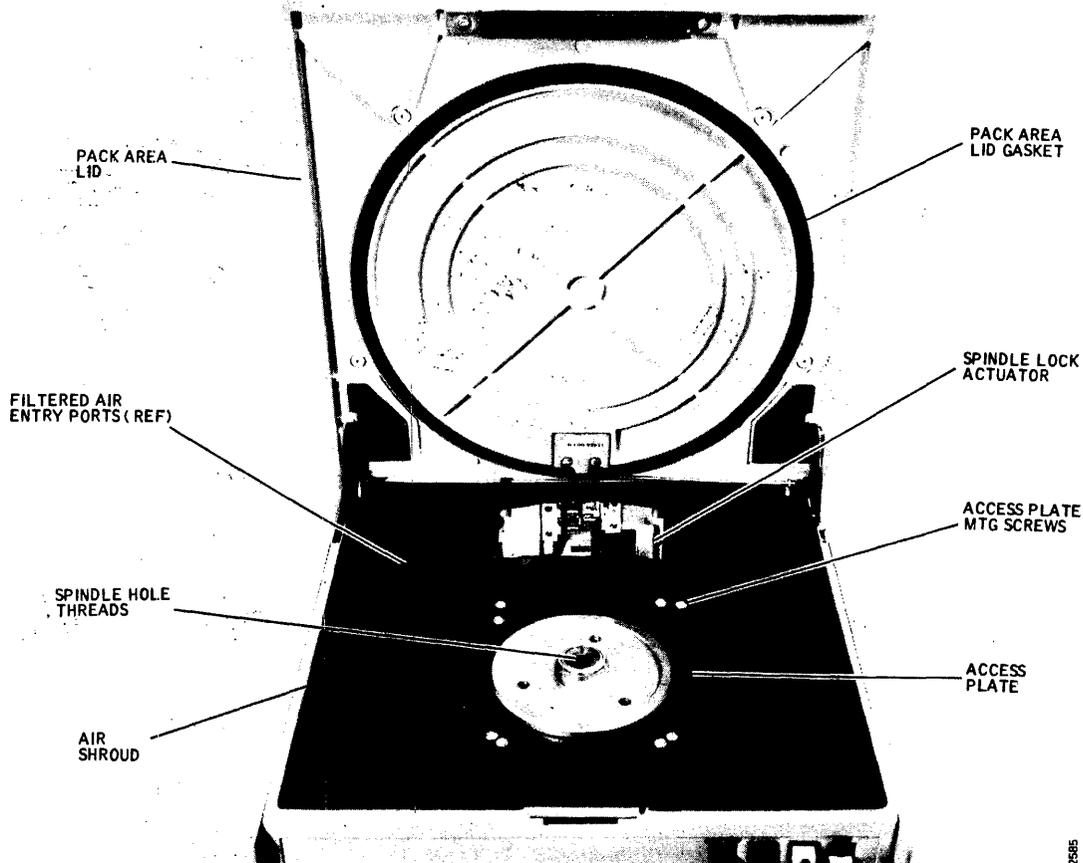

Figure 2-4. Disk Pack Area Components
2. Wipe the inside of the air shroud (Figure 2-4) with a lint-free cloth dampened with 30 percent alcohol. Wipe it dry and remove all residue.
2. Inspect the spindle surface (Figure 2-4) for dirt or other contamination.
7. Operate the spindle lock by hand to verify that it engages and disengages freely. Refer to Figure 2-4.